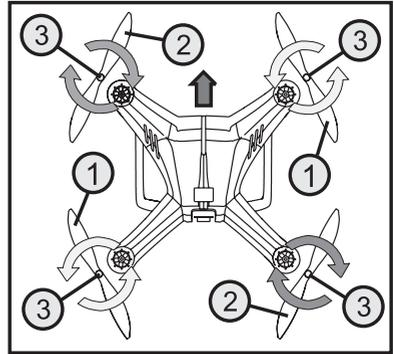

Figure 2
Observe the rotating direction of the propellers at installation. The propellers at the front left and the rear right turn clockwise when viewed from above; the propellers on the front right and rear left turn counter-clockwise (see rotating direction arrows in figure 2).
The propellers have glued-in attachment nuts (see figure 2, item 3), which tighten when the quadcopter is in operation.